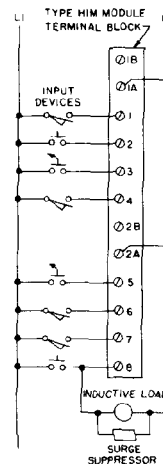

Figure 1 - Typical Wiring
Field input devices are wired to the terminal block on the front of the input module. Figure 1 illustrates the typical wiring for the HIM-101 input module.
- In those applications where an inductive load such as a motor starter or solenoid is wired in parallel with a Type HIM-101 Input Module, a suppressor must be installed as indicated in Figure 1. A typical suppressor for 120 V AC operation consists of a 0.5 mfd, 400 volt capacitor with a 220 ohm resistor in series.